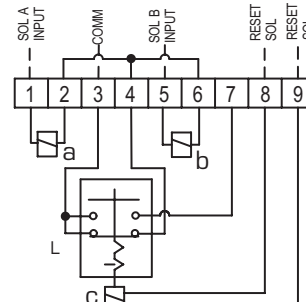

Figure 4a – Dual Input Wiring Diagram with Pilot Solenoid Circuit Completed
The spool is kept in its normal position by centering springs M. Switch L is a two-position momentary latching switch, wired as shown in Figure 4a and 4b. In its normal position it completes the electrical circuit to the pilot solenoids through terminals 3 and 4.
**Warning:** The wiring in the dual-input product as depicted in Figures 4a and 5a must be connected as shown. Using a single input or connecting inputs other than as indicated could result in personal injury and/or property damage.